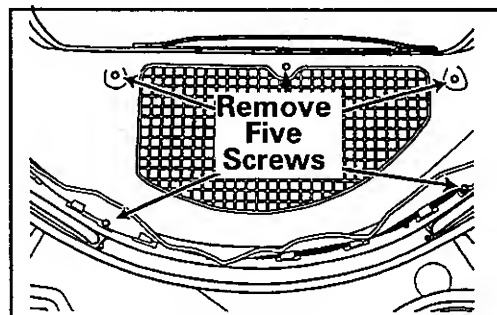

Figure 10-2
3. Remove the four 1/4" hex head screws and the one cross recess countersunk screw securing the outlet duct to the tumbler front. **Note:** *Two of the hex head screws are hidden under the felt seal. Pull the outlet duct free from the tumbler front, (Figure 10-2).*